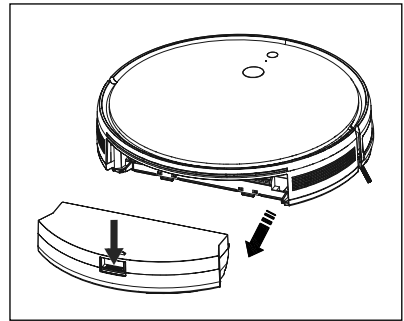

Fig. 7
- 1) Press the release button **15** on the dust container **15**, and pull it out of the appliance (see Fig. 7).